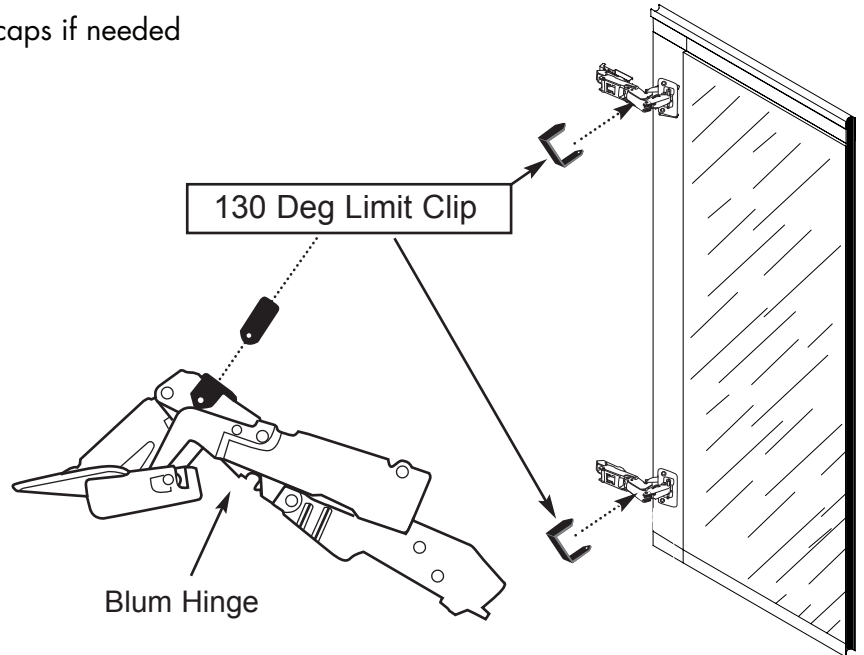

FIG 20
2. If required, place 130° limit clips on hinges as shown and snap into place (Fig 20)